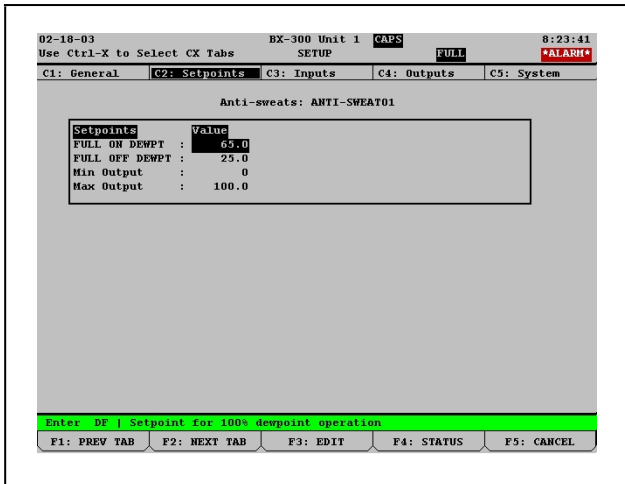

Figure 4-5 - Anti-Sweat Setpoints Setup Screen
4. Press **F2** (NEXT TAB) to advance to the Setpoints Setup screen. (Figure 4-5).